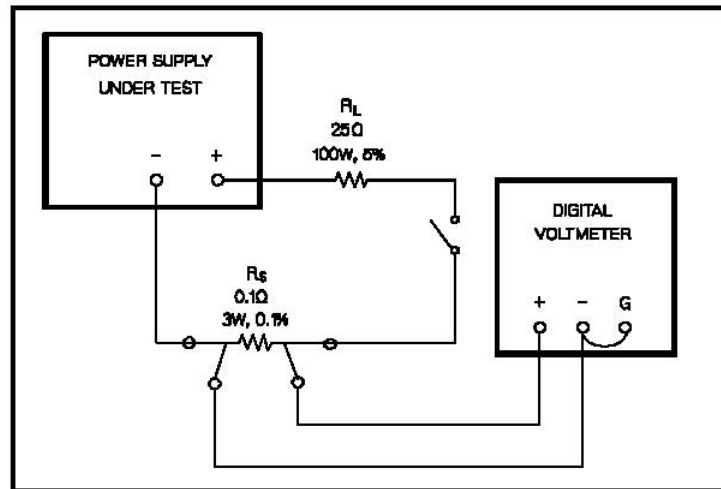

Figure 1-7 Output Current, Test Set Up
- 6 Connect the test setup shown **Figure 1-7** to the V1 supply's + and - output terminals.
- 10 Open the load switch and repeat steps (6) through (9) for the V2 supply.
- 12 Connect the test setup shown in **Figure 1-7** to the V1 supply's + and - output terminals. Substitute a short for R_L and leave the load switch open.
- 15 Open the load switch and repeat steps (11) through (14) for the V2 supply.
- 2 Connect the test setup shown in **Figure 1-7** to the output of the supply to be adjusted. Substitute a short for R_L and leave load circuit switch open.